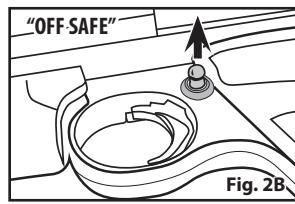

Fig. 2B
- Push the safety from the right side in for "OFF SAFE" until you hear a distinct click. (Fig. 2B)